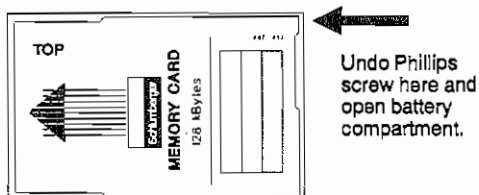

Fig. 8.2: The battery of a memory card has a limited lifetime. So do not forget to replace it in good time.
2. Undo the Phillips screw at the location shown in **Fig. 8.2**. This screw holds the battery compartment shut, which you can now open.